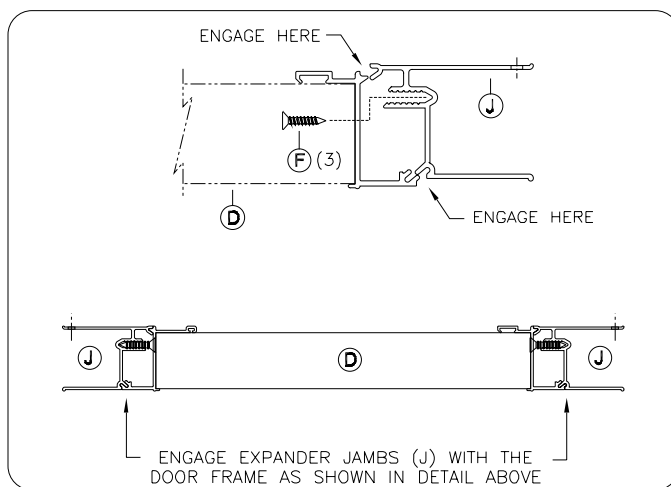

figure 2
At strike side, engage the full length of Expander Jamb with the Door Frame Assembly as shown in figure 2. Secure with three (3) #8 x 3/4" flat head screws (F). Repeat step for the hinge side.